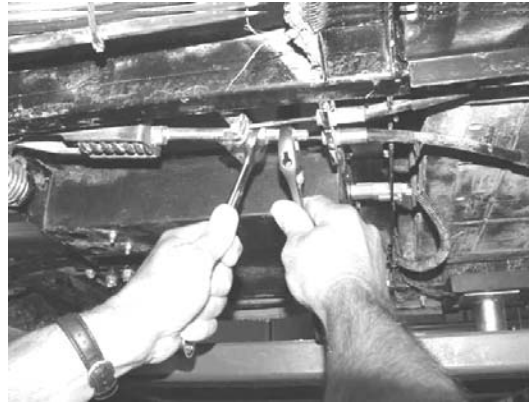

Fig. M2 Adjusting cable
2. Adjust brake cable tension so that brake pads drag against rotor. (See Fig. M2) Then firmly actuate brake pedal a few times. Loosen brake cables just enough that the rotors spin freely. Firmly actuate pedals each time you make an adjustment. Cables should be tight enough for good pedal feel but not cause brake drag. Suggested running clearance to rotor is 0.003” to 0.005”.